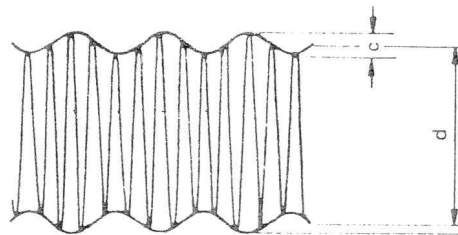

Fig. 4-4. PM signal (Phase modulated signal)
- (3) Set the slide switch to CH-2 and perform the same adjustments as (1), (2).
- (4) Set the slide switch to M (Middle position). The waveform illustrated in Fig. 4-4 will be observed. Adjust the phase volume (PH) to make c/d less than 0.05.